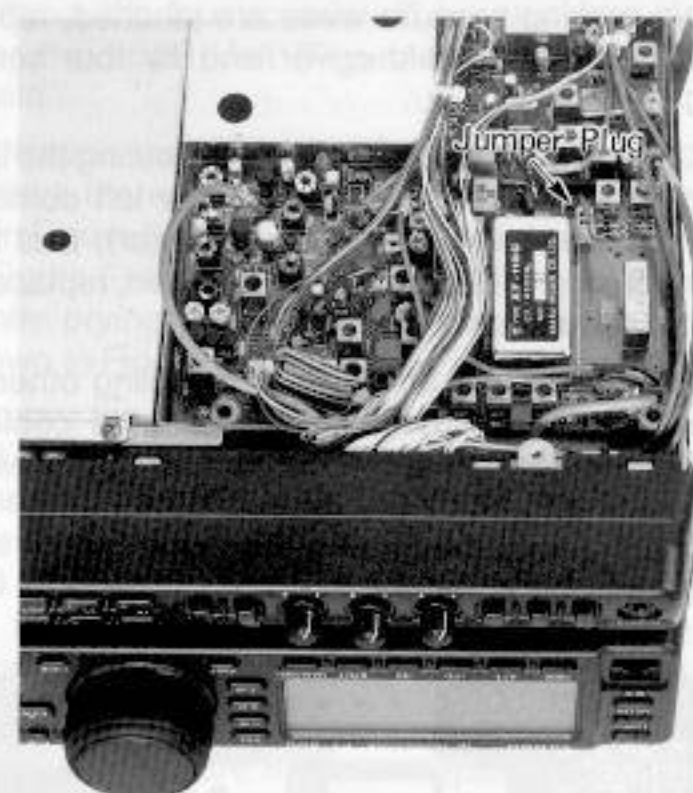

Figure 10
- ☐ Referring to Figure 10, determine the location of the filter(s) you are installing (the XF-110C and XF-110CN cannot both be installed, as they use the same mounting location). If installing either filter for CW narrow, remove the jumper plug.